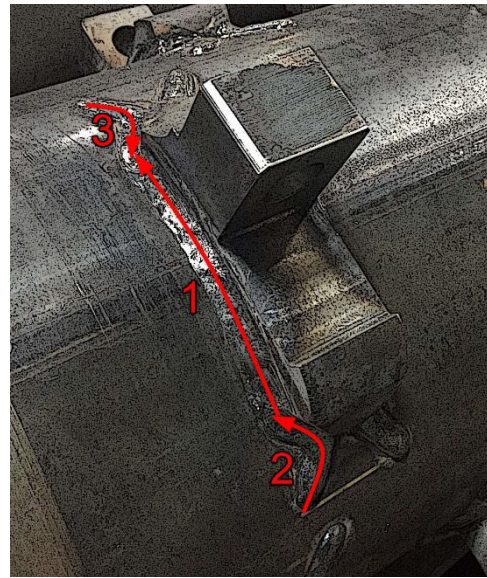

Figure 31
5. Follow the welding pattern illustrated in Figure 31.
NOTE: Overlap weld #2 and #3 over weld #1 in Figure 31.